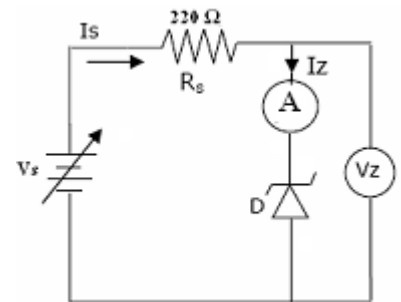

Figure 2
- 1) The **voltage regulator circuit**: is required to maintain a constant dc output voltage across the load terminals in spite of the variation in the input main voltage ( $V_s$ ) or Change in the load current ( $I_L$ ). The Zener voltage regulator circuit shown in Figure 2 consists of a current limiting resistor  $R_S$  (to protect the Zener diode from high current at no load condition) connected in series with the input voltage  $V_s$  and Zener diode
- Construct the circuit shown in Figure 2 by using **Zener** diode. (*Make sure the diode is connected with the correct polarity*).